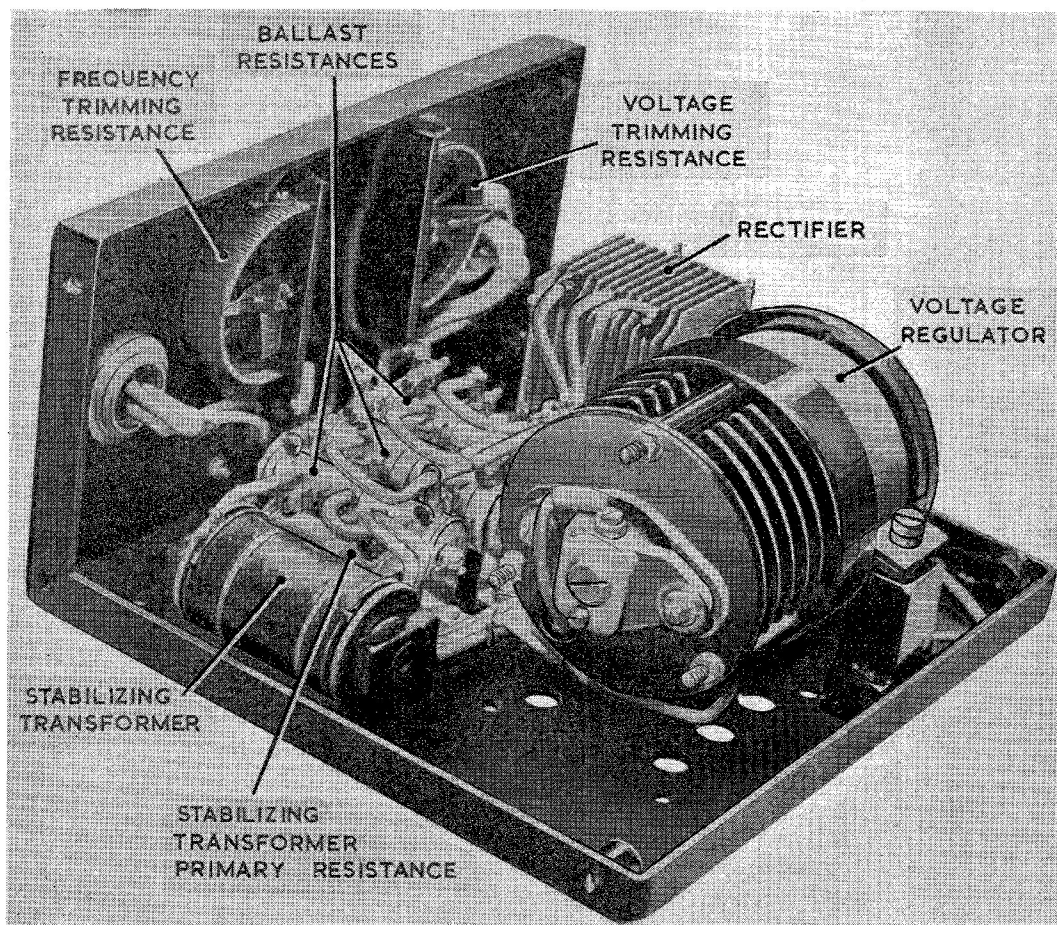

Fig. 2. Control panel with cover removed
2. Two wire-wound resistances are attached to the front panel (*fig. 2*), one for providing limited adjustment of the frequency of the inverter a.c. output, and the other for providing limited adjustment of the voltage level of the voltage regulator. Two studs protruding through the front of the panel are used for adjusting these resistances.